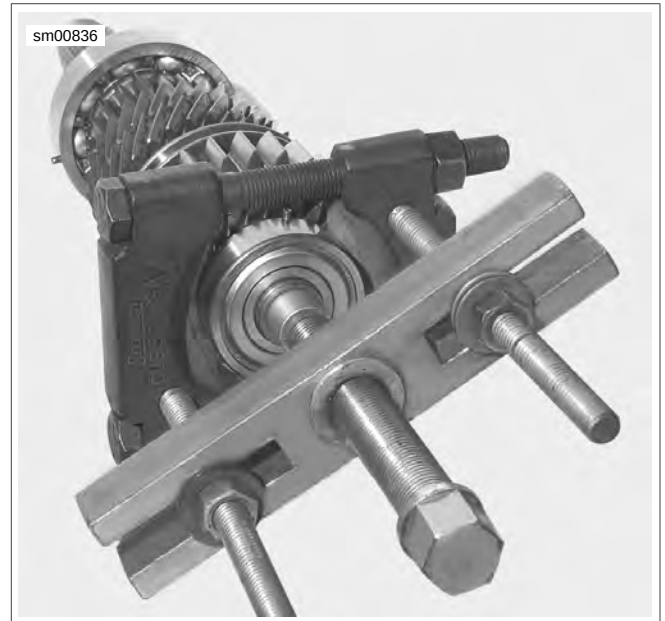

Figure 6-134. 2nd Gear Bearing Removal
2. See Figure 6-134. Use puller to remove 2nd gear bearing. To protect the end of the shaft use BIG-TWIN MAINSHAFT PRIMARY BEARING RACE REMOVER AND INSTALLER (Part No. HD-34902-B).